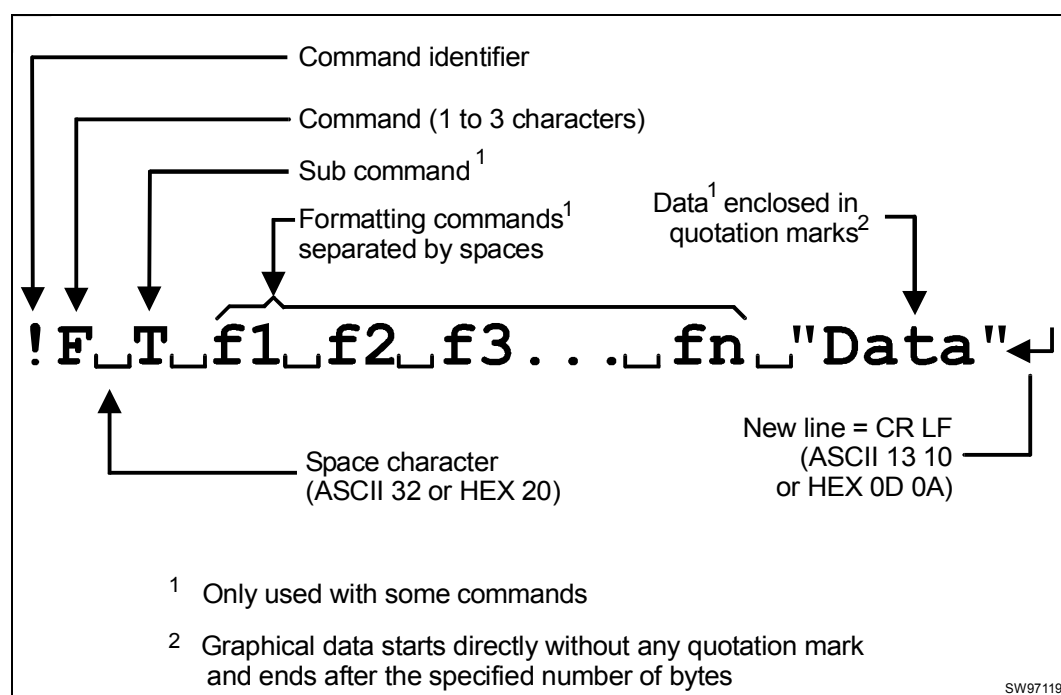

Figure 11. Command syntax
- The characters immediately following the “!” (21H) form the actual command to the printer. The command consists of 1–3 characters and is followed, when applicable, by a sub command, formatting commands, and data separated by space characters as shown in Figure 11.